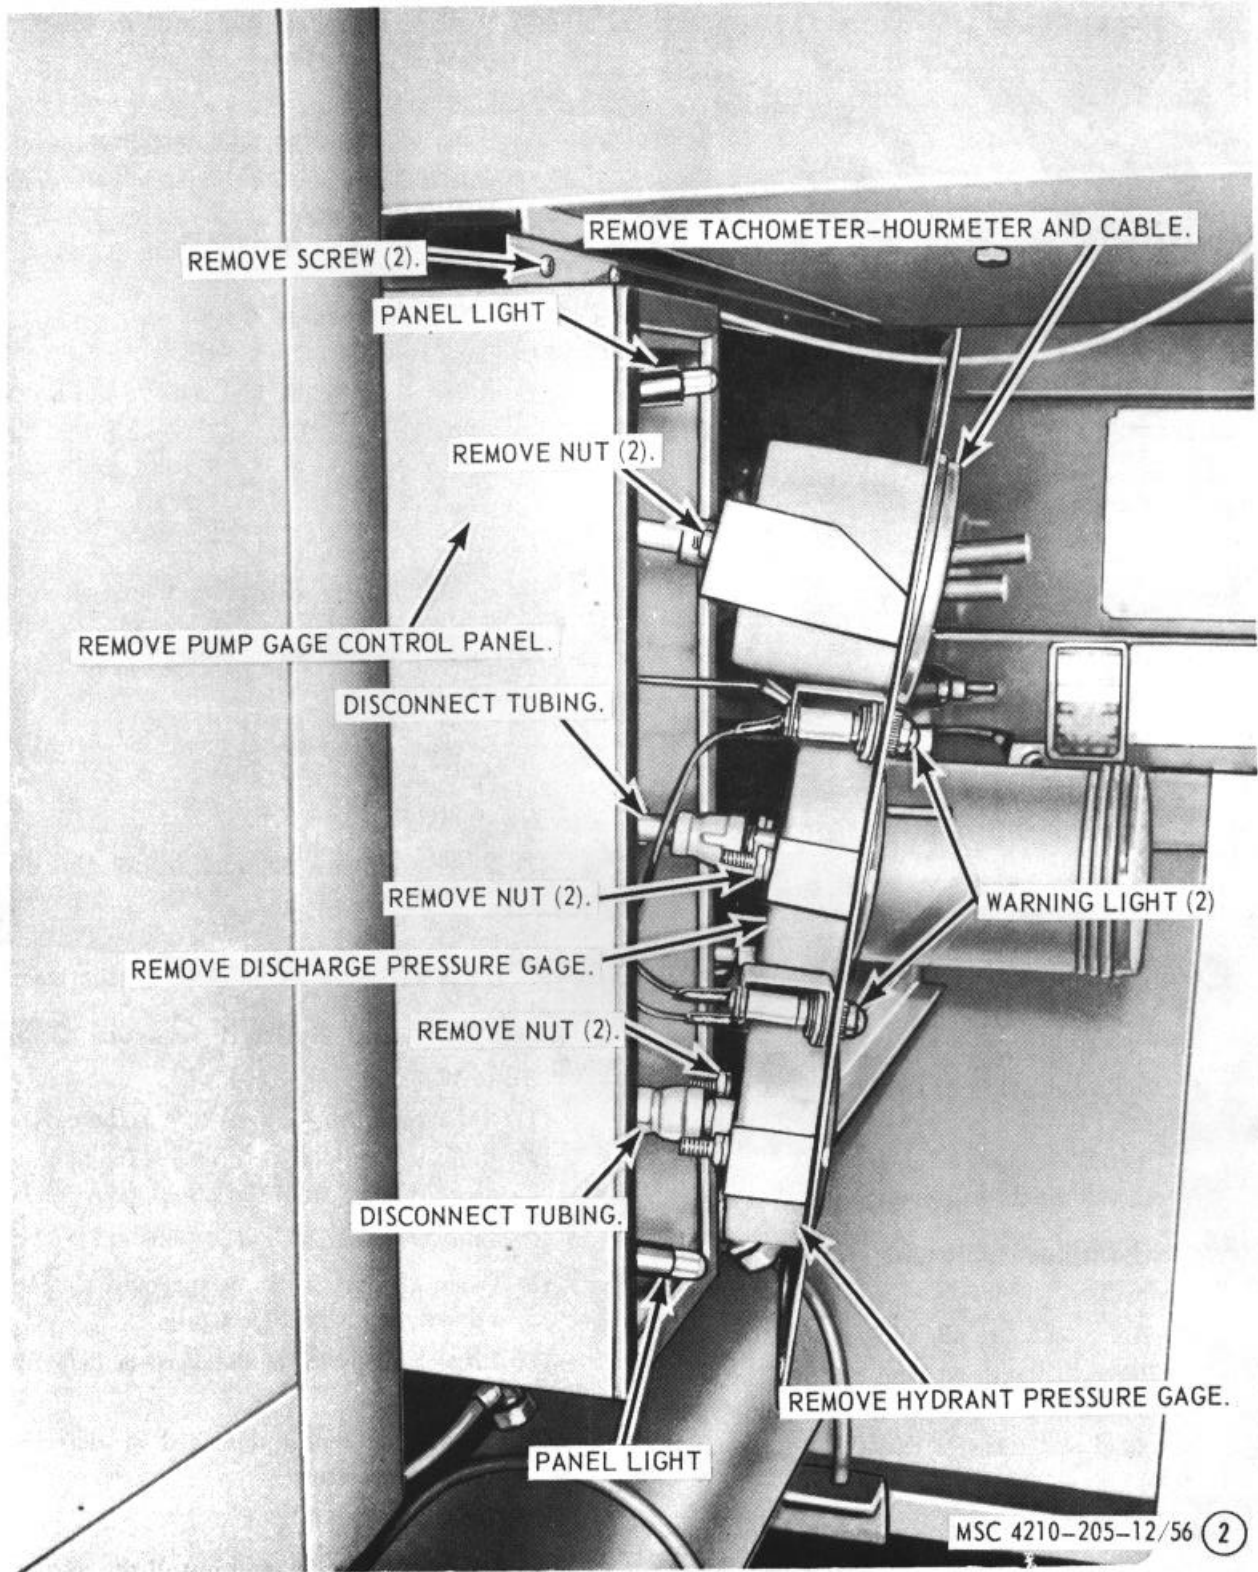

Figure 56-Continued.
- (2) Refer to figure 56, and remove the hydrant pressure gage from the pump gage panel.
- (1) Refer to figure 56, and install the vacuum hydrant pressure gage on the pump gage panel.
- (1) Remove the tachometer-hourmeter (para. 115).
- (2) Remove the vacuum hydrant pressure gage (para. 117).
- (3) Discharge pressure gage (para. 116).
- (4) Refer to figure 56, and remove the pump gage control panel from the special purpose body.
- (1) Refer to figure 56, and install the pump gage panel on the special purpose body.
- (2) Install the discharge pressure gage (para. 116).
- (3) Install the hydrant pressure gage (para. 117).
- (4) Install the tachometer-hourmeter (para. 115).